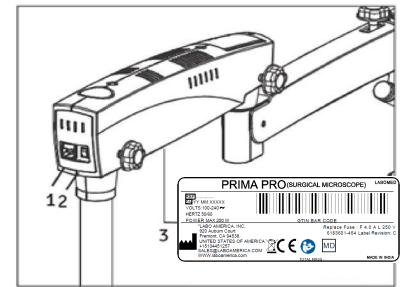

Fig. 35
1. Connect the power cable to the AC inlet socket (1) provided on the back of the swivel arm as shown in the fig.35. Switch on the power from on/off switch (2).
Note: Power supply is designed with universal input 100V - 240V AC, 50/60HZ. To plug in follow instruction on electrical label provided at bottom of the arm as shown (3) here in Fig.35.
It is located on the back of the swivel arm Ref. Fig. 35. At '2' position, microscope is on and cooling fan starts running.